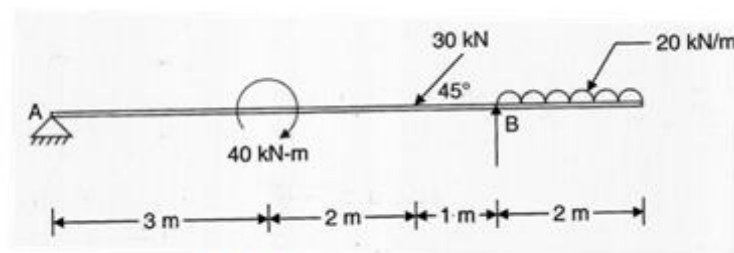

Fig.3
- 11 a) Determine the support reactions for the beam shown in Fig.3. (7)